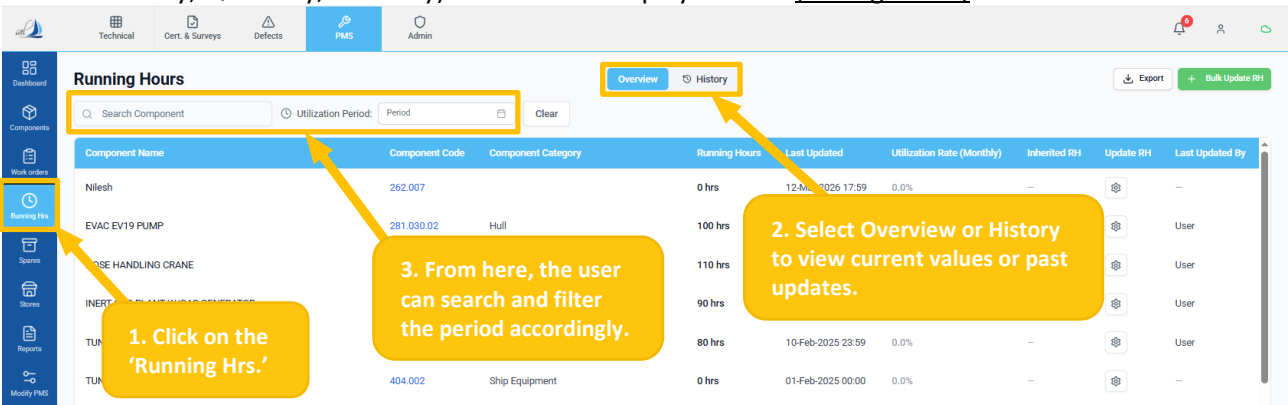

Figure 47
- Click on the 'Running Hrs' sub – sub module. (Ref Figure 47)
- Click 'Overview' or 'History' to view current values and update history, enabling review of changes and tracking of previous updates. (Ref Figure 47)
- The user can search records by Name or Code and select the required utilization period (Weekly, Monthly, Quarterly, or Yearly) to refine the displayed data. (Ref Figure 47)